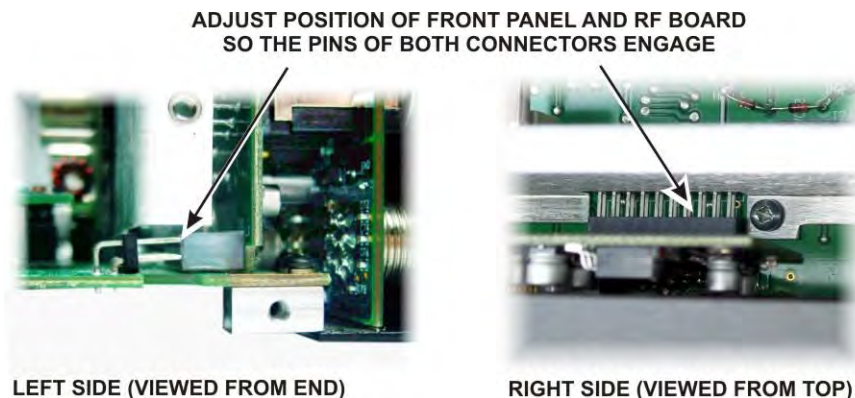

Figure 21. Mounting Front Panel Assembly - Mating P50 and P51.
□ Hold the front panel in place against the chassis assembly and turn the unit over to look at the two multi-pin connectors on the top of the RF board. See if they are engaging the corresponding connectors on the front panel assembly (see Figure 21). Adjust the position of the RF board or the front panel assembly to ensure they are mating properly.